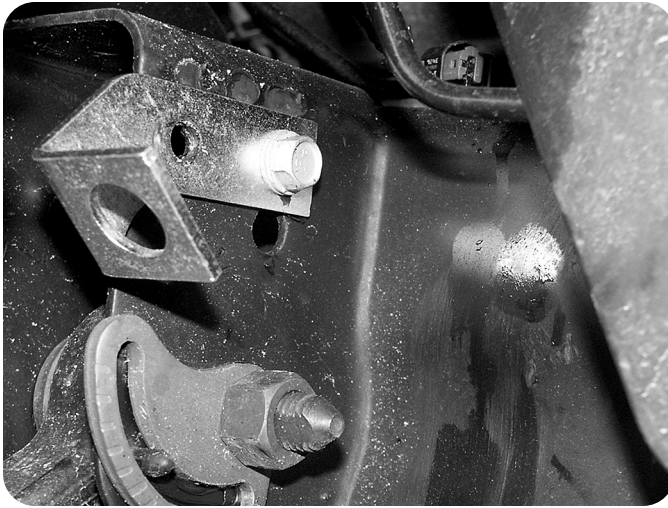

Figure 15
33. Attach the provided brake line bracket to the upper control arm mount using the original mounting hole/hardware and the newly drilled hole/provided 5/16" x 3/4" bolt, nut, and washers. Figure 15 Leave hardware loose.